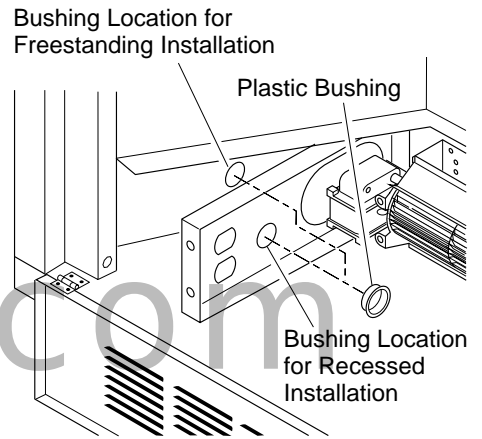

Figure 7 - Installing Bushings
- a. **If your fireplace system is installed as a freestanding unit with an accessory mantel**, install one plastic bushing (provided) into the 1.5" hole in the lower left side of the outer casing (see Figure 7). Route power cord through plastic bushing. Plug the power cord into a properly grounded three-prong wall receptacle near the firebox.